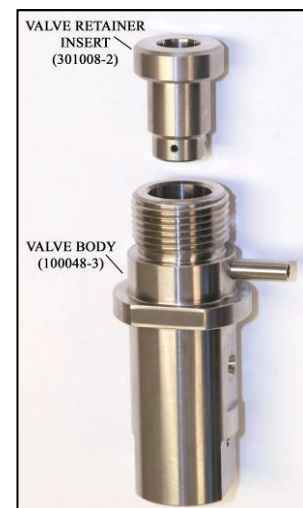

Figure 3
8. Remove the Valve Retainer Insert (301008-2) from the opposite end of the valve body. DO NOT DISCARD. **See Figure 3.**